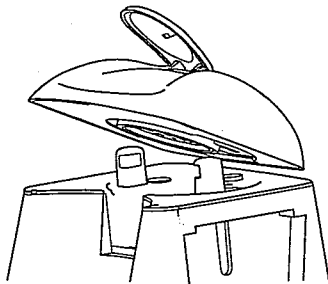

Figure 9
9. To close the Lid, place your palm over the top of the Lid. Press down firmly on the top of the Lid until it locks into place, see Figures 9, 10, and 11.
8. To close the Lid, place your palm over the top of the Lid. Press down firmly until it locks into place, see Figures 9, 10, and 11.